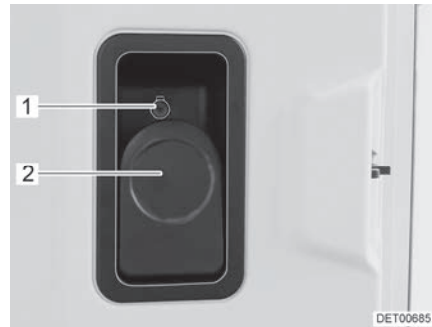

Fig. 31 Door lock (conversion door, inside)
*Opening:* ■ Pull lever (Fig. 31,2).
*Locking:* ■ Push the safety knob (Fig. 31,1) in.